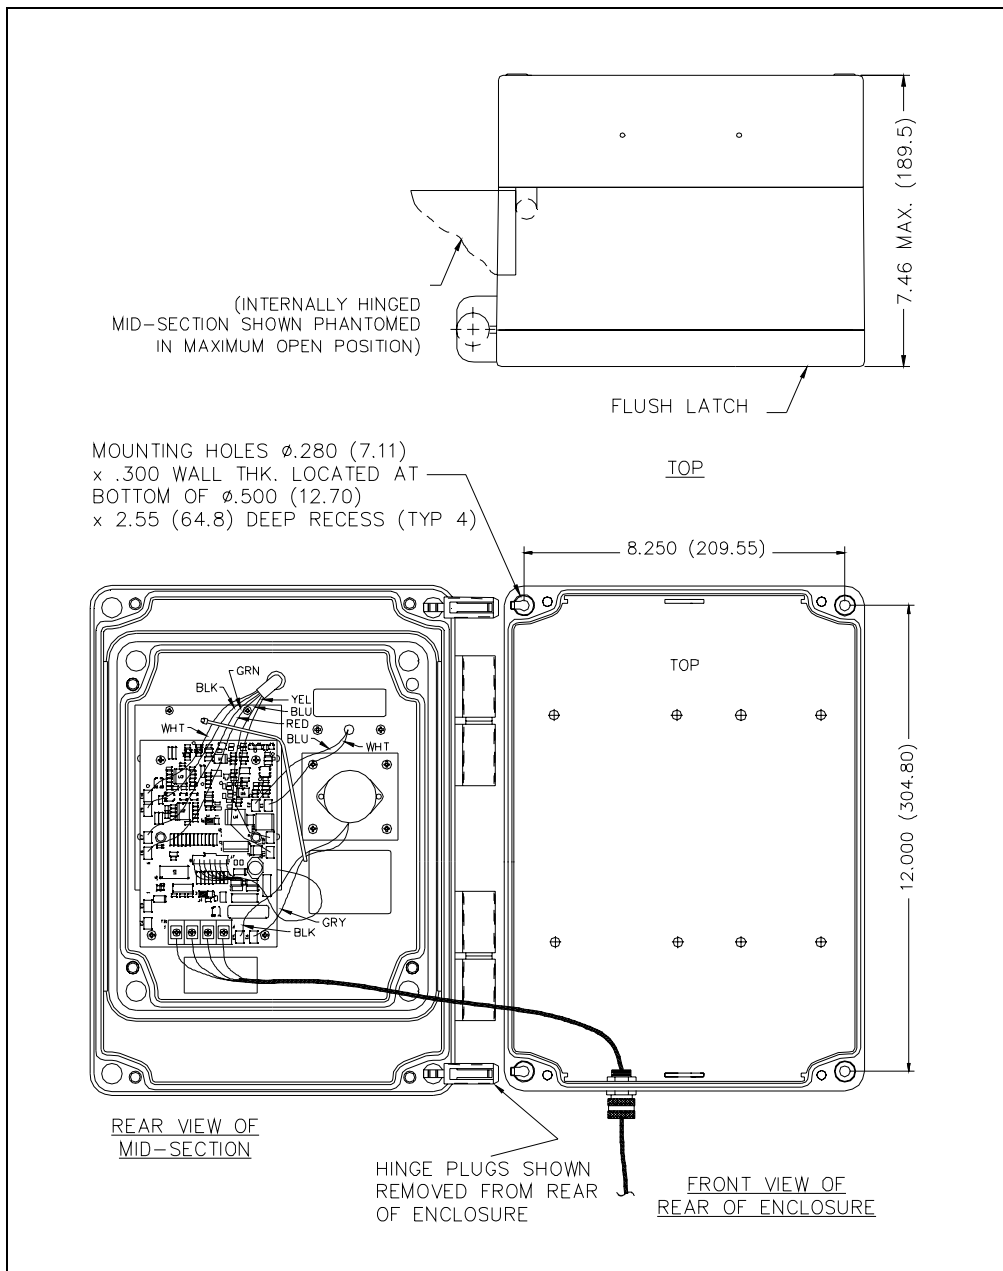

Figure 6. Model 256-001 Mounting Detail
3. Open the front half of the enclosure to the left until the length of modular telephone cord inside the enclosure can be disconnected from the printed circuit board terminal strip. See Figure 6. Pull on the left side of the enclosure until the hinge plugs pull loose to separate the front half from the rear half. Set the front half of the enclosure aside.
5. Reconnect the modular telephone cord to the printed circuit board terminal strip. See Figure 6 for details.